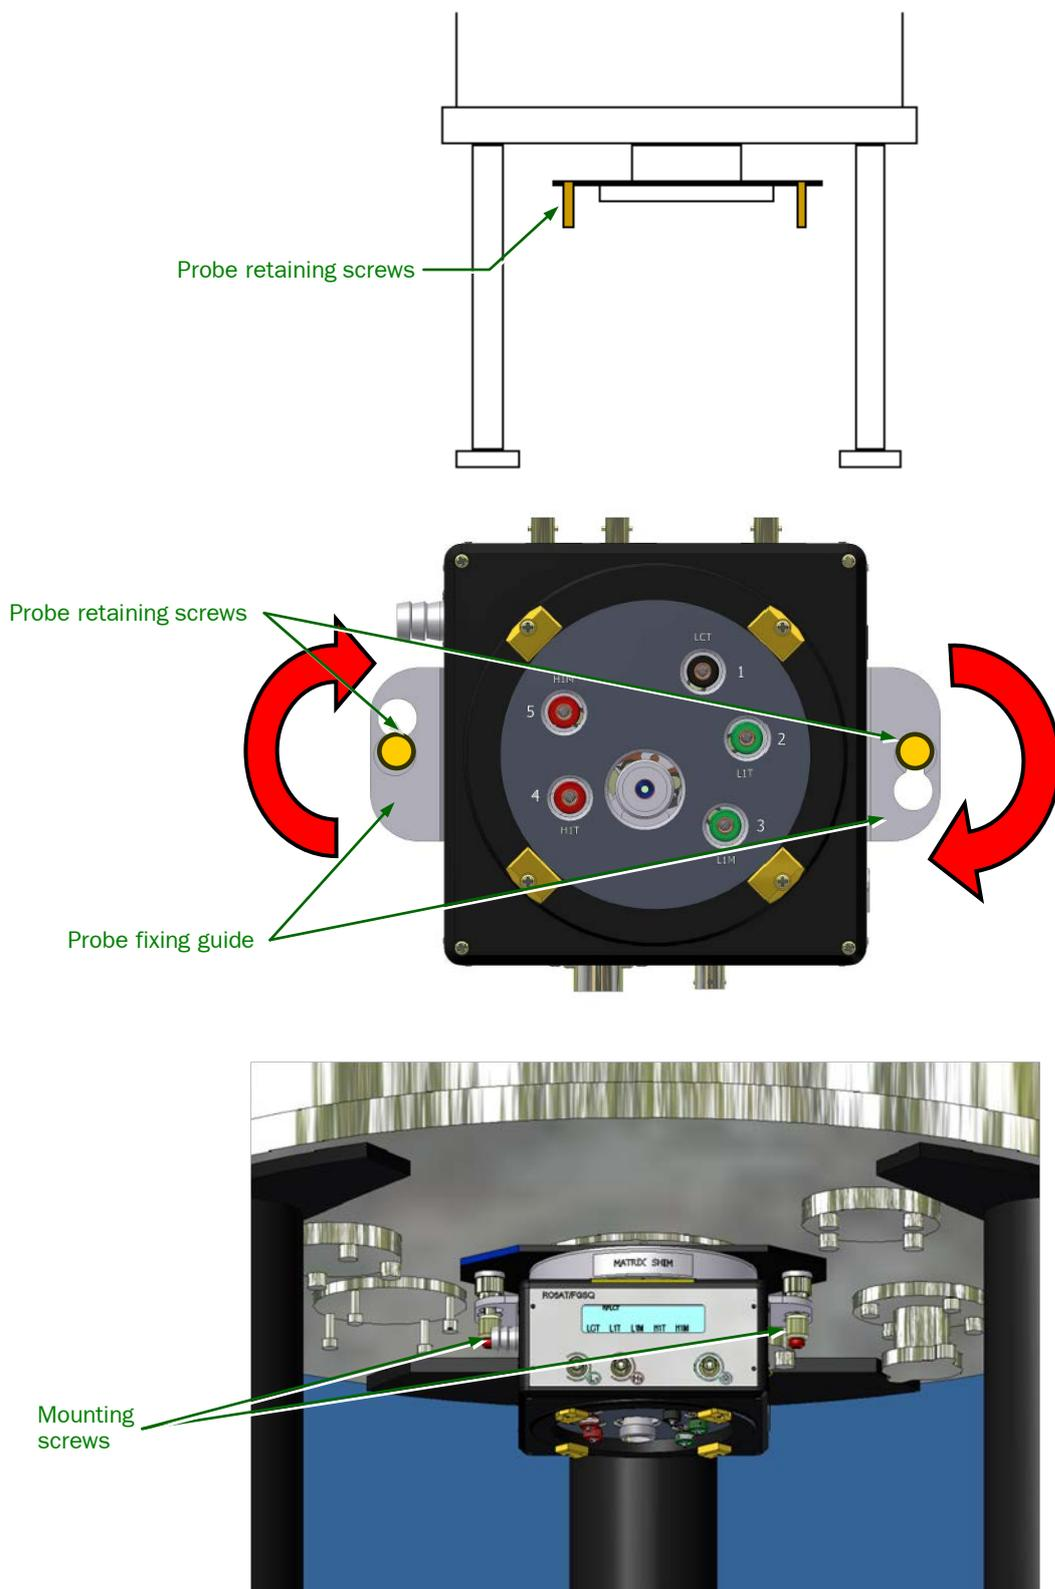

Fig. 3 Installing the probe
-  As shown in Fig. 3, lift the probe while adjusting the large holes of the probe fixing guide to the position of the probe retaining screws on the SCM bottom, and turn the probe slowly along with its fixing guide (clockwise when viewed from the bottom). Confirm that the probe retaining screws are positioned at the ends of the holes of the probe fixing guide, and then fasten the nuts of the probe retaining screws.